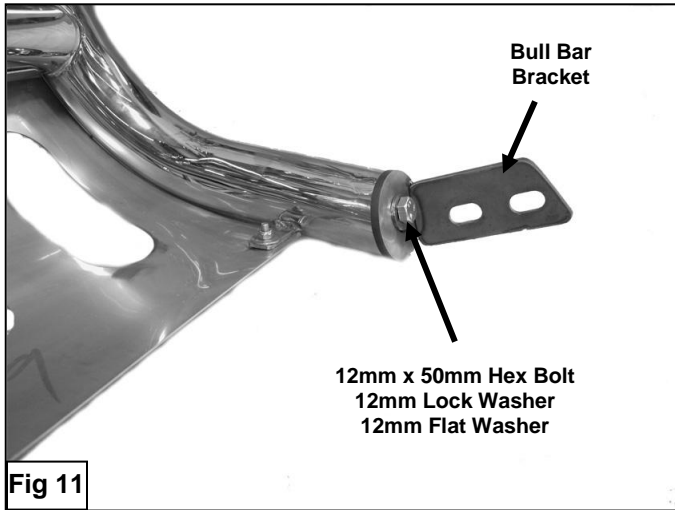

Fig 11
15. Determine passenger and driver Bull Bar Mounting Brackets and hand tighten them to Bull Bar using (2) 12-1.75mm Hex Head Bolts, (2) 12mm Lock Washers, and (2) 12mm Flat Washers (**Figure 11**).